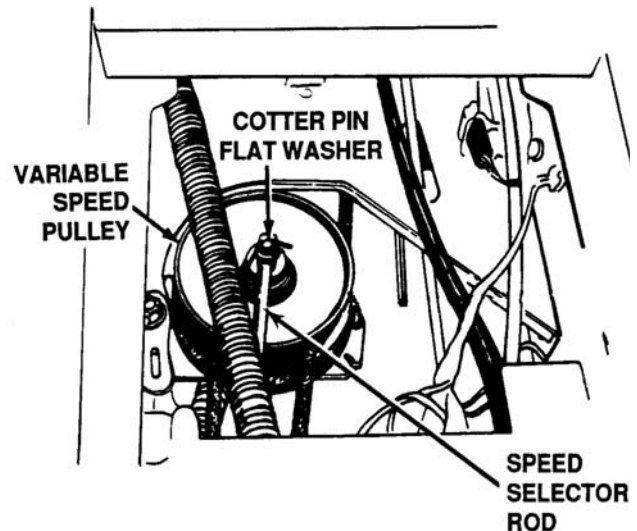

Figure 4-44. Location of Speed Selector Rod
- b. Disconnect the speed selector rod from the variable speed pulley by removing the cotter pin and flat washer and lifting rod off the 3/8 inch pin. See Figure 4-44.